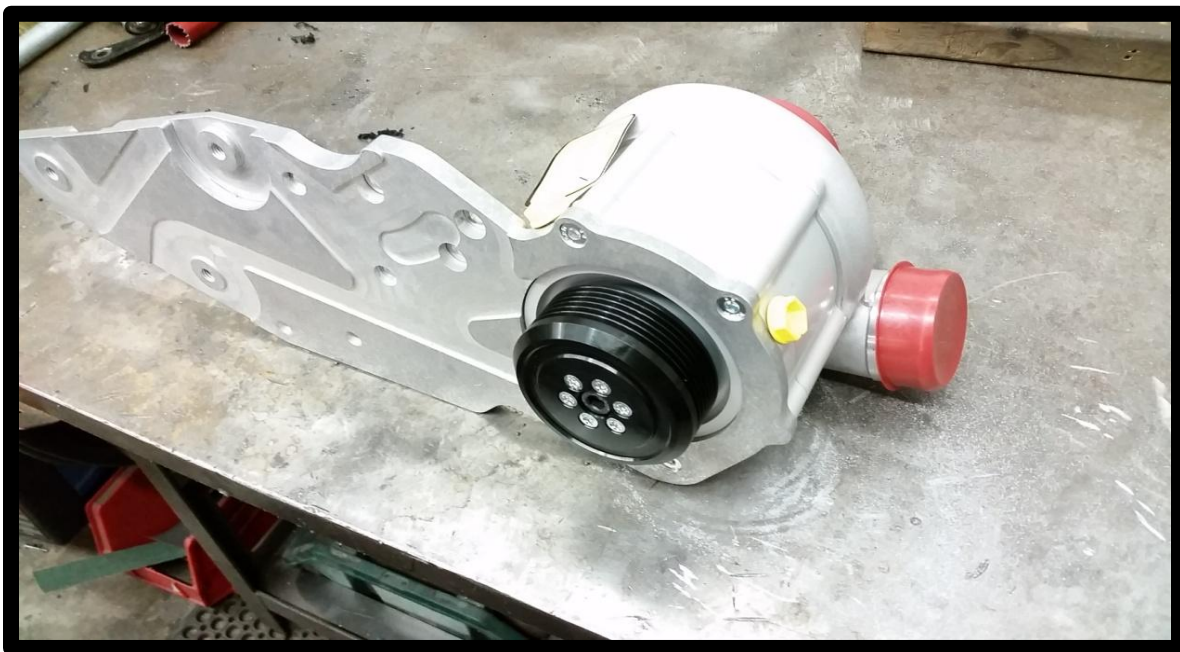

Figure 48: Installing Head Unit onto Main Plate
16. Preinstall the supercharger head unit onto the supercharged main plate as shown in Figure 48 and Torque the bolts to 23 ft-lbs.